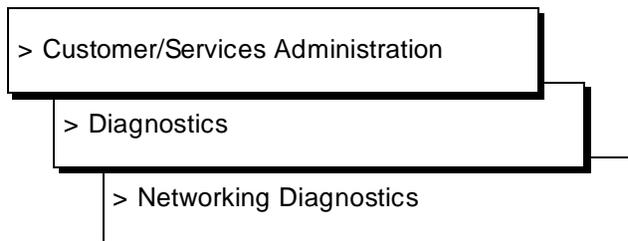

Figure 20-15. Busyout Networking Channel Screen
4. Press **BUSYOUT** (F2). After you press the key, you see the Busyout Networking Channel screen as shown in Figure 20-15.